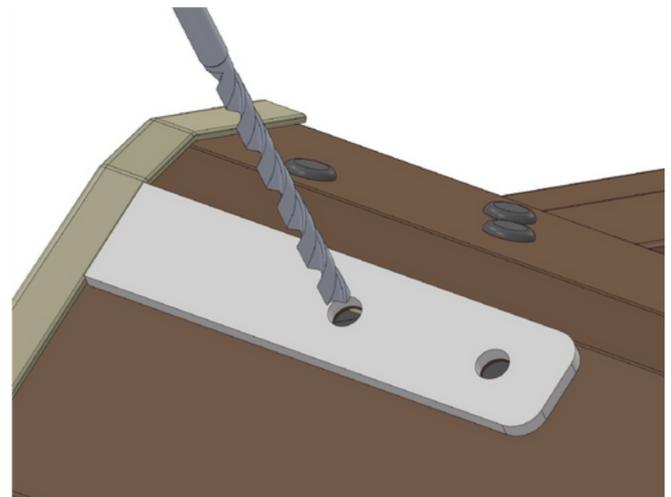

Fig. 3
- 2) Customize a template [h] to the edge of the upper (transverse) sheet of the window cladding (Fig.2). Then drill 2 holes with a $\varnothing 6$ drill bit. Turn the template over and repeat in the opposite corner (Fig.3)